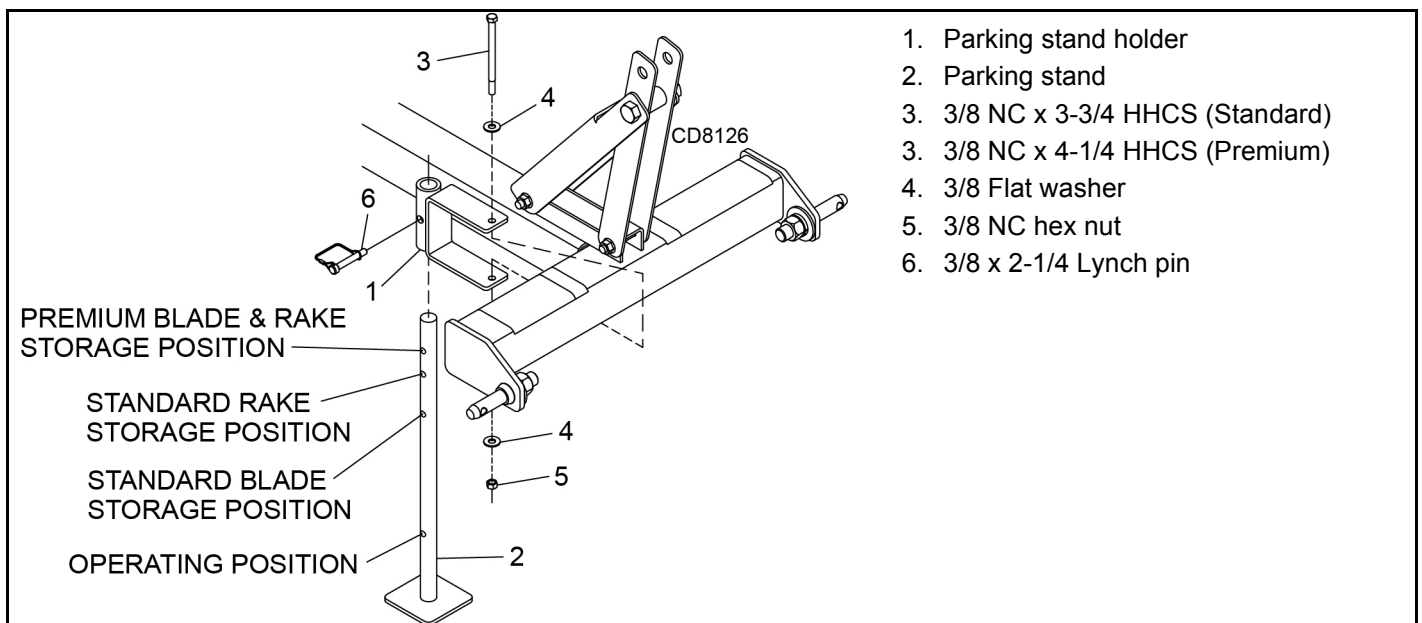

Figure 5. Parking Stand Assembly (Optional)
1. Assemble parking stand holder (1) toward center of frame assembly using 3/8 hex head cap screw (3), 3/8 flat washers (4) and secure with 3/8 hex nut (5). Do not allow parking stand holder to cover any portion of safety decal. Figure 5.